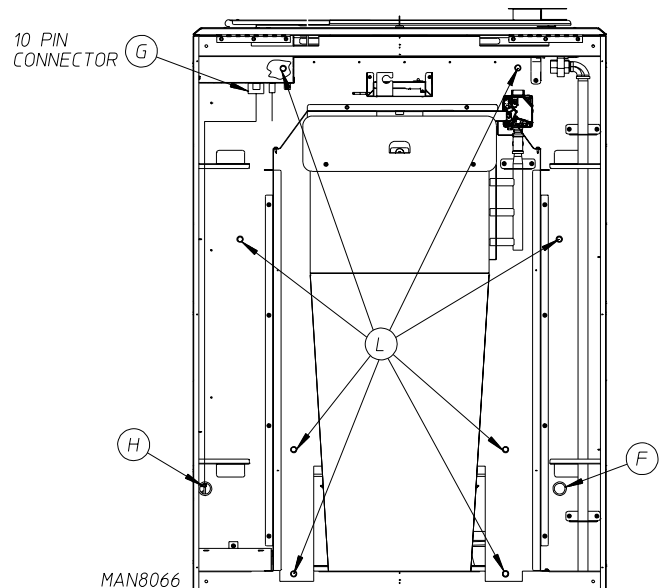
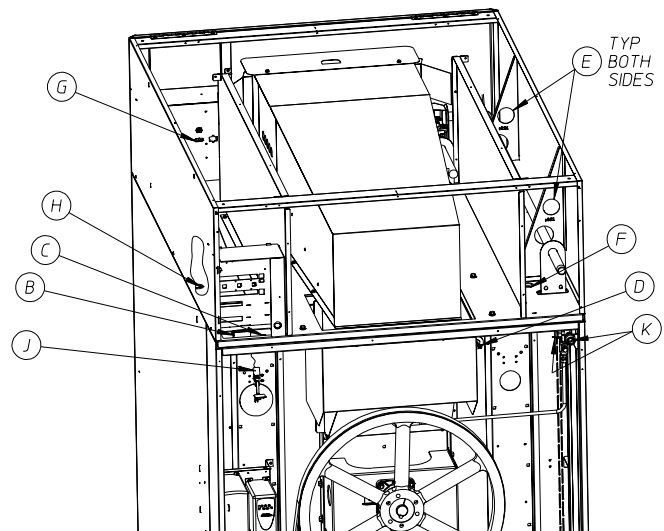

FIGURE 1
FIGURE 2
NOTE: Figures 1, 2, and 3 show gas heat. Process is similar for steam and electric heat.
2. Remove (8) bolts, washers and lock washers -L- (figure 1) that secure the top console (module) to the dryer base.
3. Disconnect (2) plugs -B- and -C- (figure 2) in rear electrical box.
4. Disconnect the sail switch wires -J- (figure 2) and pass them up through hole -H- (figures 1 and 2). (Not require with steam heat).
5. Disconnect the ten pin connector -G- (figure 1 and 2). Pass it and the 10 wires leading from it down through hole -H- (figures 1 and 2).
6. If dryer is equipped with S.A.F.E. system, disconnect the S.A.F.E. system probe and ground wires -D- (figure 2) and four S.A.F.E. system valve wires -K- (figure 2) and pass them up through hole -F- (figures 1 and 2).
8. Lift the top console (module) off the dryer base. Use (4) lifting holes -E- (figure 2) as necessary.